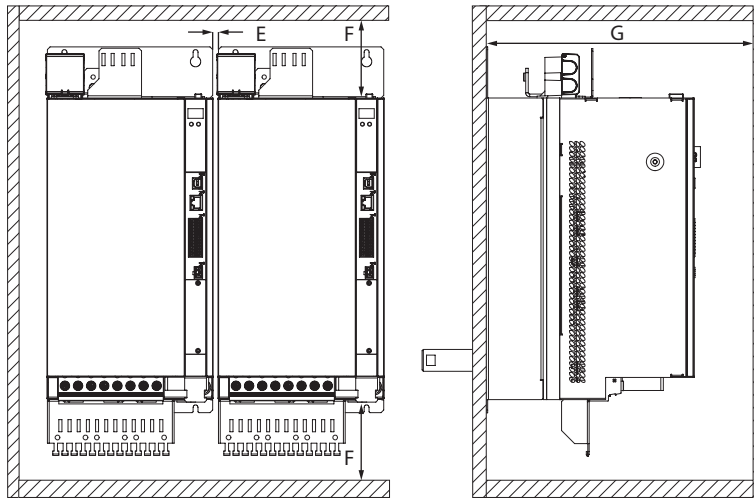
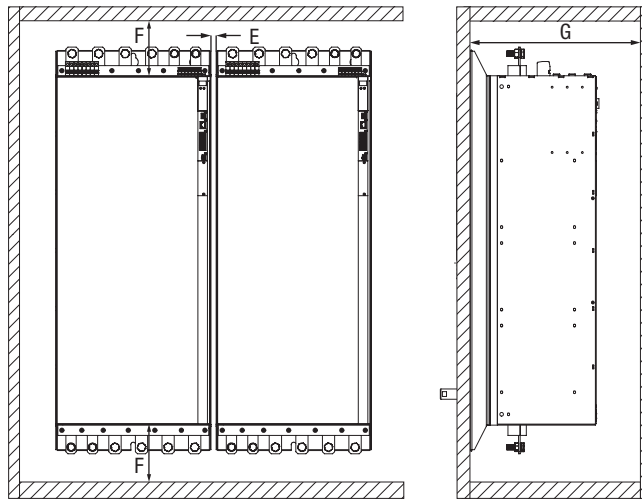

Figure 3.13 Mounting distance, liquid cooling housing variant Size 5 + Size 6A (symb. depiction)
Figure 3.14 Mounting distance, liquid cooling housing variant, based on Size 7 as an example
2) See Figure 3.13, Figure 3.14